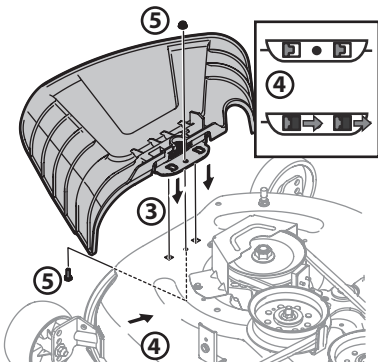

Figure 9
3. Place the chute deflector on the deck, be sure to insert the tabs on the chute deflector into the holes on the deck. See Figure 9.
4. Slide the chute deflector toward the rear of the tractor until the bolt hole in the chute deflector aligns with the hole in the deck. See Figure 9.